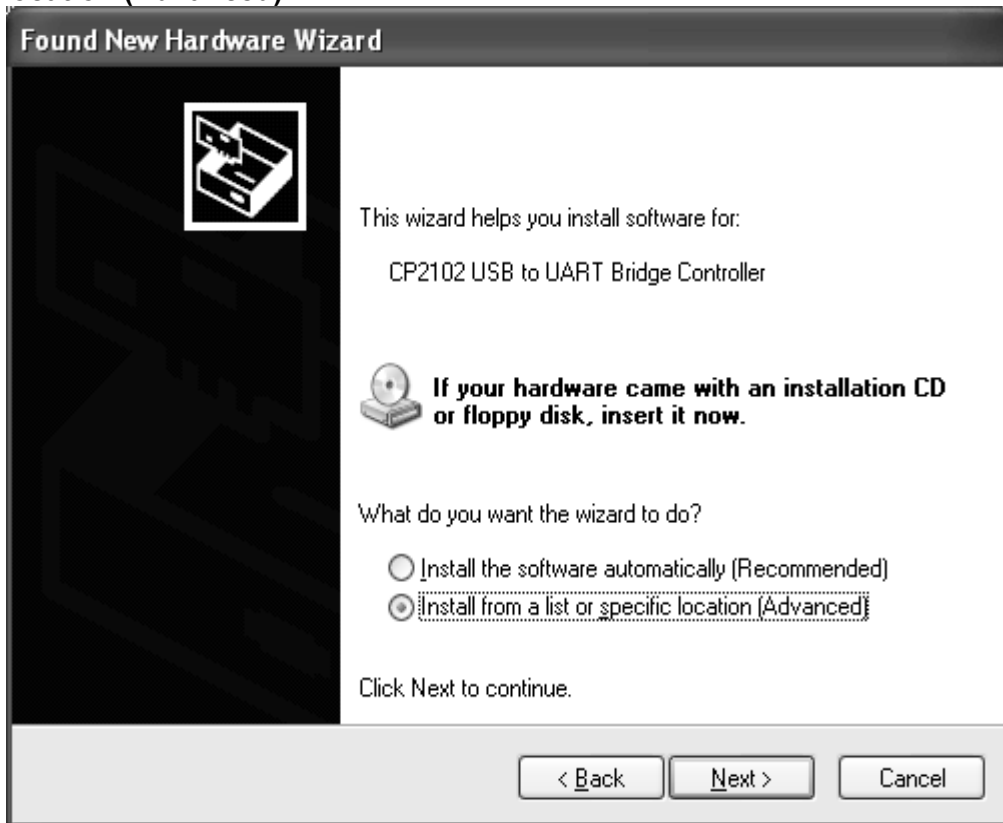

Fig. 33 New Hardware search wizard
(8) Click **Next** and the new hardware shown in Fig.33 appears. Select “**Install from a list or specific location (Advanced)**”.